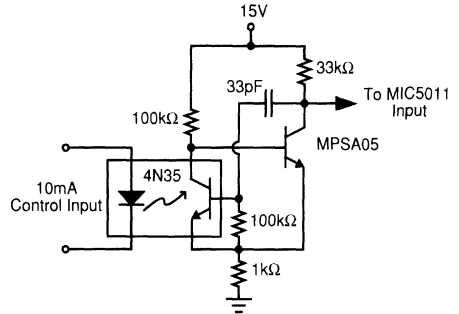

Figure 5. Improved Opto-Isolator Performance
**Opto-Isolated Interface** (Figure 5). Although the MIC5011 has no special input slew rate requirement, the lethargic transitions provided by an opto-isolator may cause oscillations on the rise and fall of the output. The circuit shown accelerates the input transitions from a 4N35 opto-isolator by adding hysteresis. Opto-isolators are used where the control circuitry cannot share a common ground with the MIC5011 and high-current power supply, or where the control circuitry is located remotely. This implementation is intrinsically safe; if the control line is severed the MIC5011 will turn OFF.
diode limits the supply to 18V. When the MIC5011 is off, power is supplied by a diode connected to a 15V supply. The circuit of Figure 5 is put to good use as a barrier between low voltage control circuitry and the 90V motor supply.